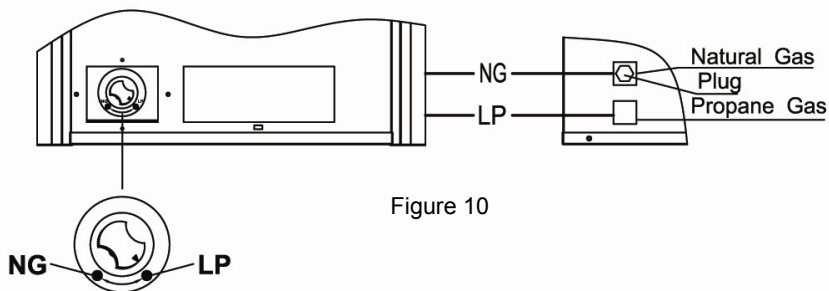

Figure 10
2. For propane gas, press in knob using a flat screwdriver with a blade the thickness of a quarter and turn knob counterclockwise  until the knob locks into the LP position (see figure 10). Fuel selection device must be locked into the LP position.